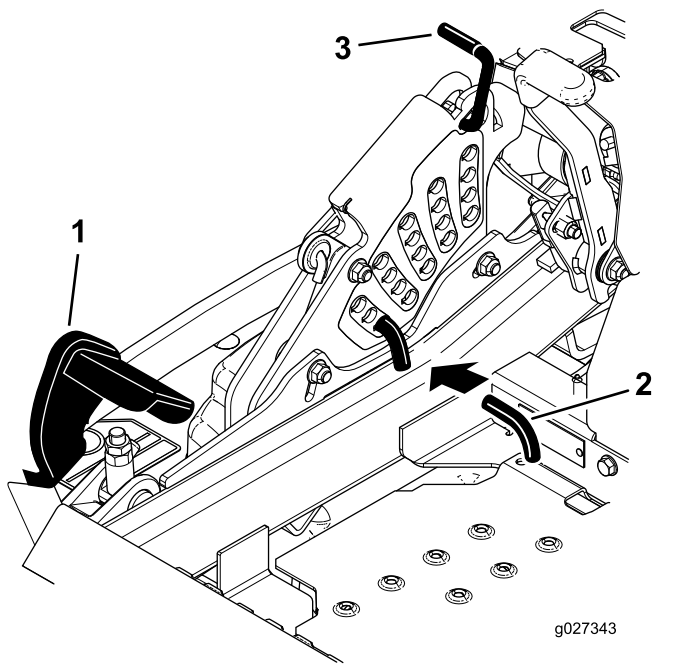

Figure 26
2. Push on the deck-lift pedal with your foot and raise the mower deck to the Transport position (also the 140 mm or 5-1/2 inch cutting-height position) as shown in Figure 26.
3. To adjust, rotate the pin 90 degrees and remove the pin from the height-of-cut bracket (Figure 26).
4. Select a hole in the height-of-cut bracket corresponding to the height-of-cut desired, and insert the pin (Figure 26).